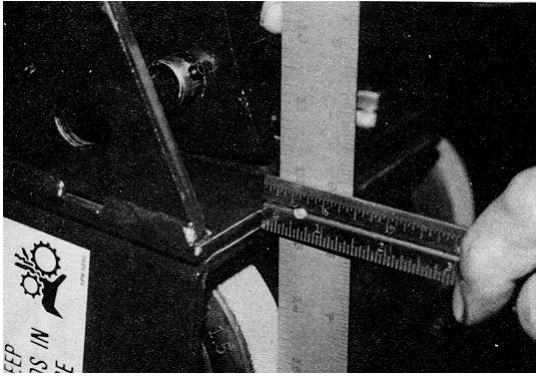

FIGURE 53
5) Place the straightedge between the front and rear casters on the high point of the face curvature. Adjust the front casters so that the gap between the straightedge and the bottom of the main frame is identical. This gap figure is approximately 1/8 to 1/4 inch (3.17 to 6.35 mm). It is important that the straightedge be positioned on both sets of casters in the same relative position on the caster faces. FIGURE 53.